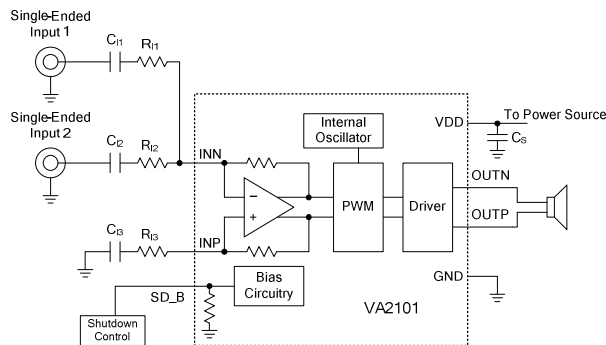

Figure 5. Dual Single-Ended Input Configuration
When using more than one single-ended source as shown in Figure 5. The gain and cut-off frequency ( $f_{C1}$  and  $f_{C2}$ ) for each input source can be set independently, shows in Equation (5) ~ Equation (8). Resistor,  $R_{I3}$ , and capacitor,  $C_{I3}$ , are needed on the INP terminal to match the impedance on the INN terminal. Equation (9) and Equation (10) shows how to calculate  $C_{I3}$  and  $R_{I3}$  value. The single-ended inputs must be driven by low impedance source even if one of the inputs is not outputting an AC signal.